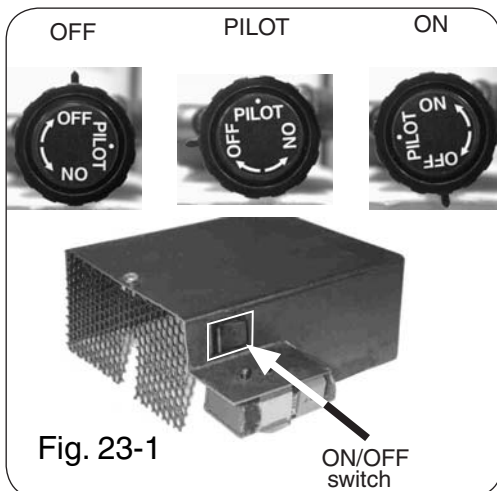

Fig. 23-1
1. Turn the burner control knob (Fig. 23-1) on the burner control valve assembly on the side of the burner pan counterclockwise ↺ so that the text on the top of the knob changes from **OFF** to **PILOT**. (Only pilot gas will flow when the knob is pushed in.)
If you do not plan on using your pan burner for an extended period, you may elect to extinguish the pilot. To do this, rotate the burner control knob to the **OFF** position (Fig. 23-1).